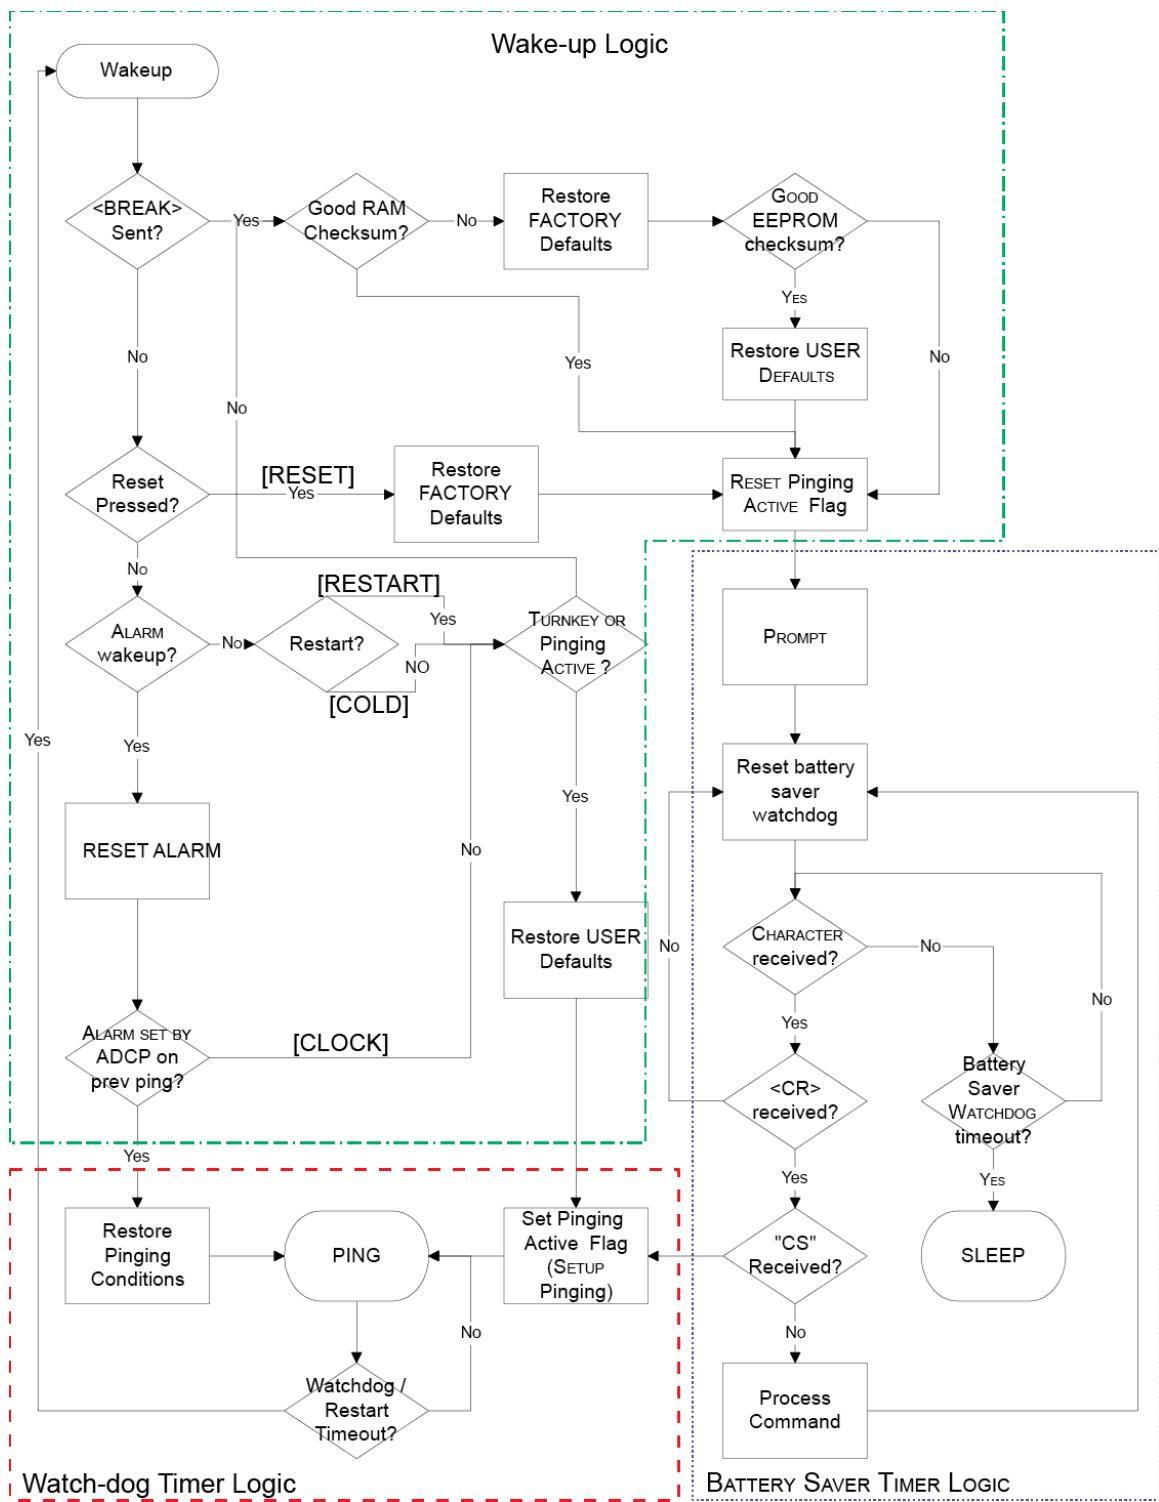
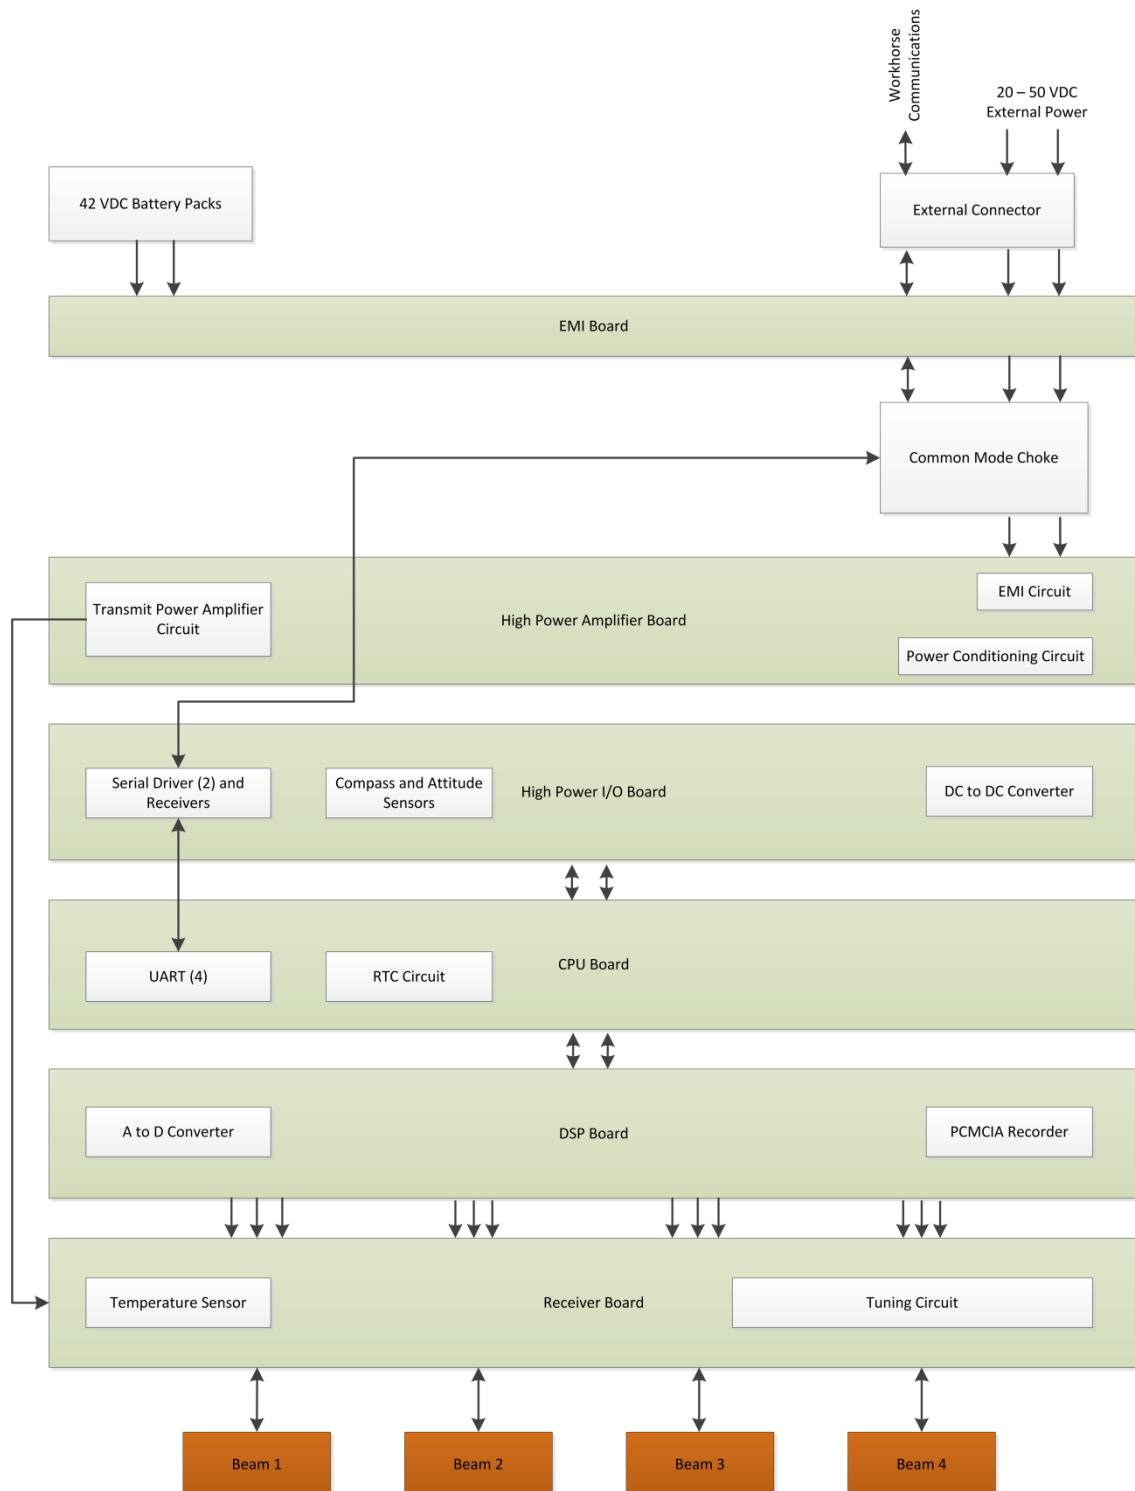

Figure 64. Long Ranger / QuarterMaster Wake-up and Timer Logic
Figure 66. Long Ranger / QuarterMaster Block Diagram
Refer to Figure 64 through Figure 66. The following events occur during a typical data collection cycle.
- Figure 64 shows a flow chart of the wake-up logic used by the ADCP. The ADCP determines what to do based on where the wake-up came from (a Break, CS-command, battery saver timer, or watchdog timer was detected).
The following paragraphs describe how the ADCP operates and interacts with its modules. Refer to Figure 64 through Figure 66 throughout this description.
External DC Power Supply – With an external supply, power is applied to pins 3 (positive) and 7 (negative) on the external connector (see Figure 66). The power then goes through an electromagnetic interference (EMI) filter on the High Power Amplifier Board. This filter reduces the chance that external noise sources associated with the external power source can disrupt ADCP operation.